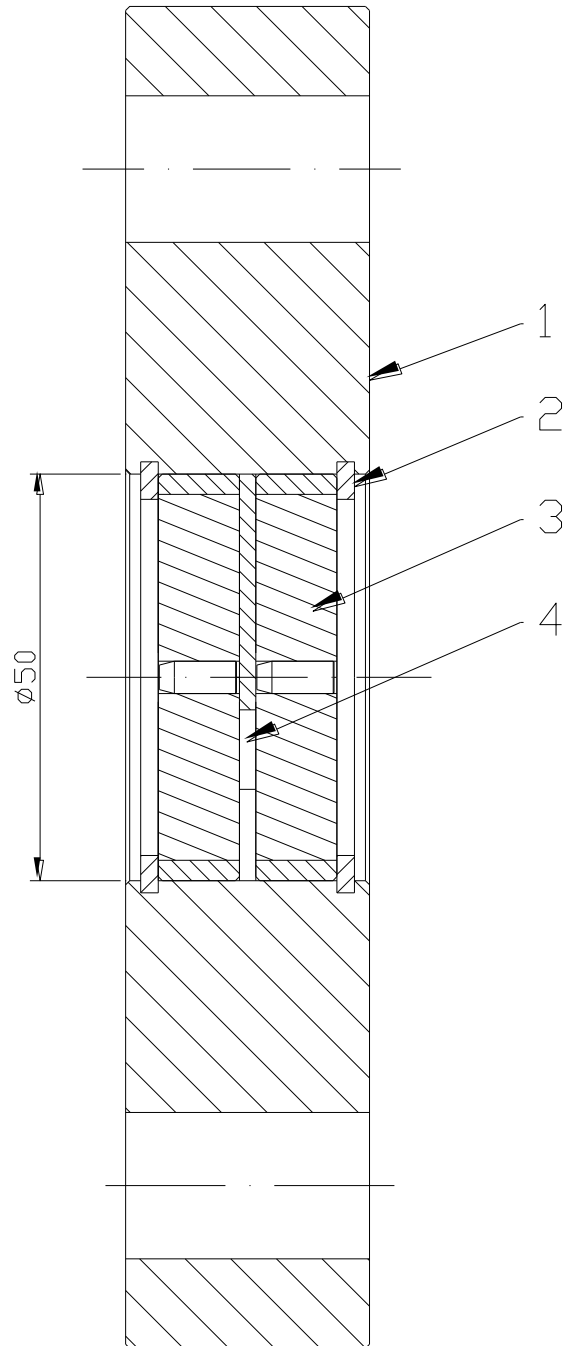

Fig. 2
(See figure 2)
(see fig.2)
- Spare part no. (Please refer to **fig. 2** for items)